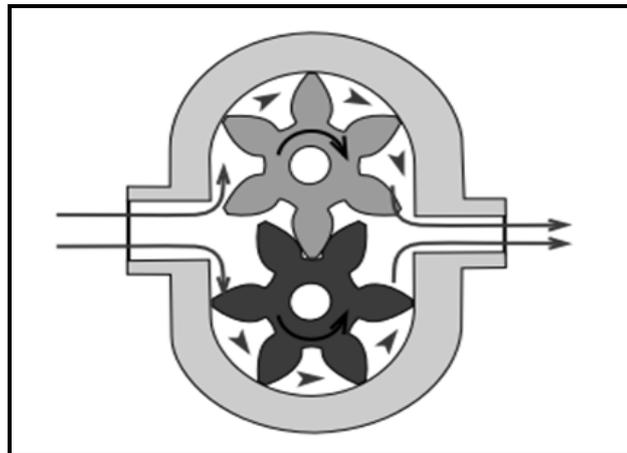

FIGURE 1.1
1.3	FIGURE 1.1 shows an oil pump. Answer the questions that follow.
1.3.1	Identify the pump shown in FIGURE 1.1 above.
1.3.3	Explain the operation of the pump shown in FIGURE 1.1.